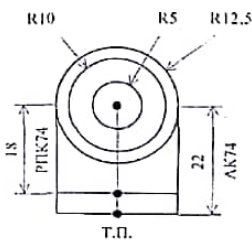

Figure 4 – Target (dimensions in centimeters) for sighting – range 100m. Sight 4.
The target for sighting AK74, РПК74 is shown in Figure 4. The aiming point is in the center of the bottom edge of the target. For adjustment of fire of a specific type of weapon, the target is bent along the corresponding line – , depending on the installed sight S and the distance from the center of the target to the aiming point. (see Table 6.1).
- accuracy of adjustment (see Table 6.2) shall be verified by shooting at a target (Figure 4) at the range of 100m,
Accuracy of adjustment (see Table 6.2) shall be verified by shooting at a target (Figure 4) at the range of 100m. At the end of adjustment, close alignment mechanisms with screwing caps 8.
THIRD stage of sighting (100m range, at a target (Figure 4) or at a chest target):